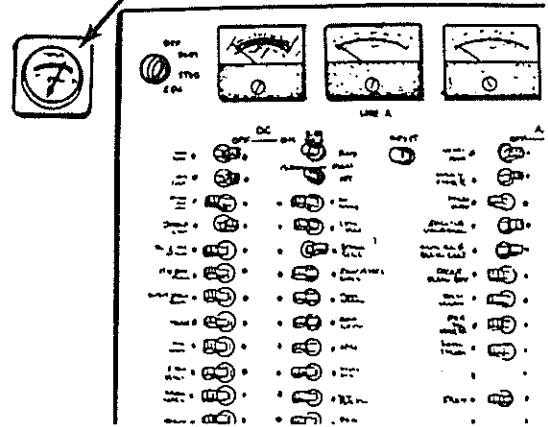

Figure 3-22 Water Tank Gauge
3. See Figure 3-22. Check that the water tank gauge beside the Master Control Panel indicates full.